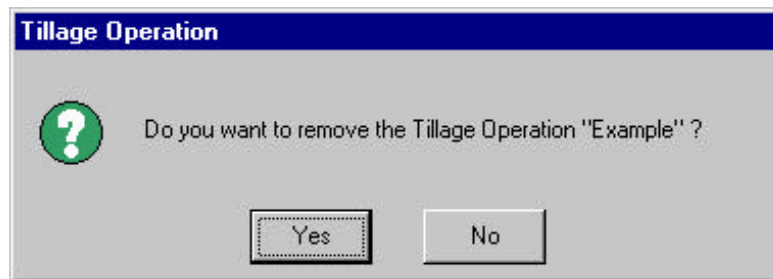

Figure 14.67
- c. A prompt box will appear, requesting the user to verify the delete (Figure 14.67).